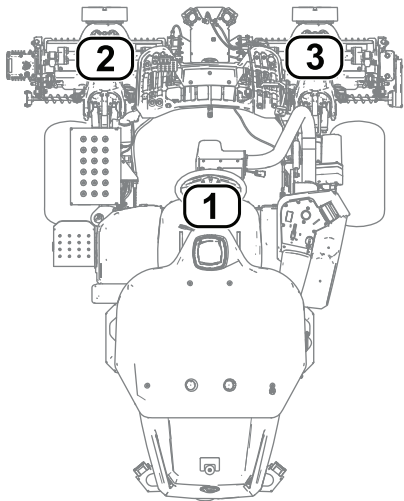

Figure 27
- **1** refers to the center cutting unit (Figure 27)
- **2** refers to the front left cutting unit (Figure 27)
- **3** refers to the front right cutting unit (Figure 27)